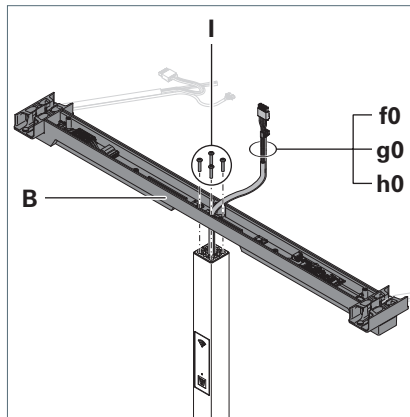

Fig. 7: Mounting the crossbar on the column.
1. Route the cables **f0**, **g0**, **h0** from below through the crossbar **B** and set the crossbar on the column, see Fig. 7.